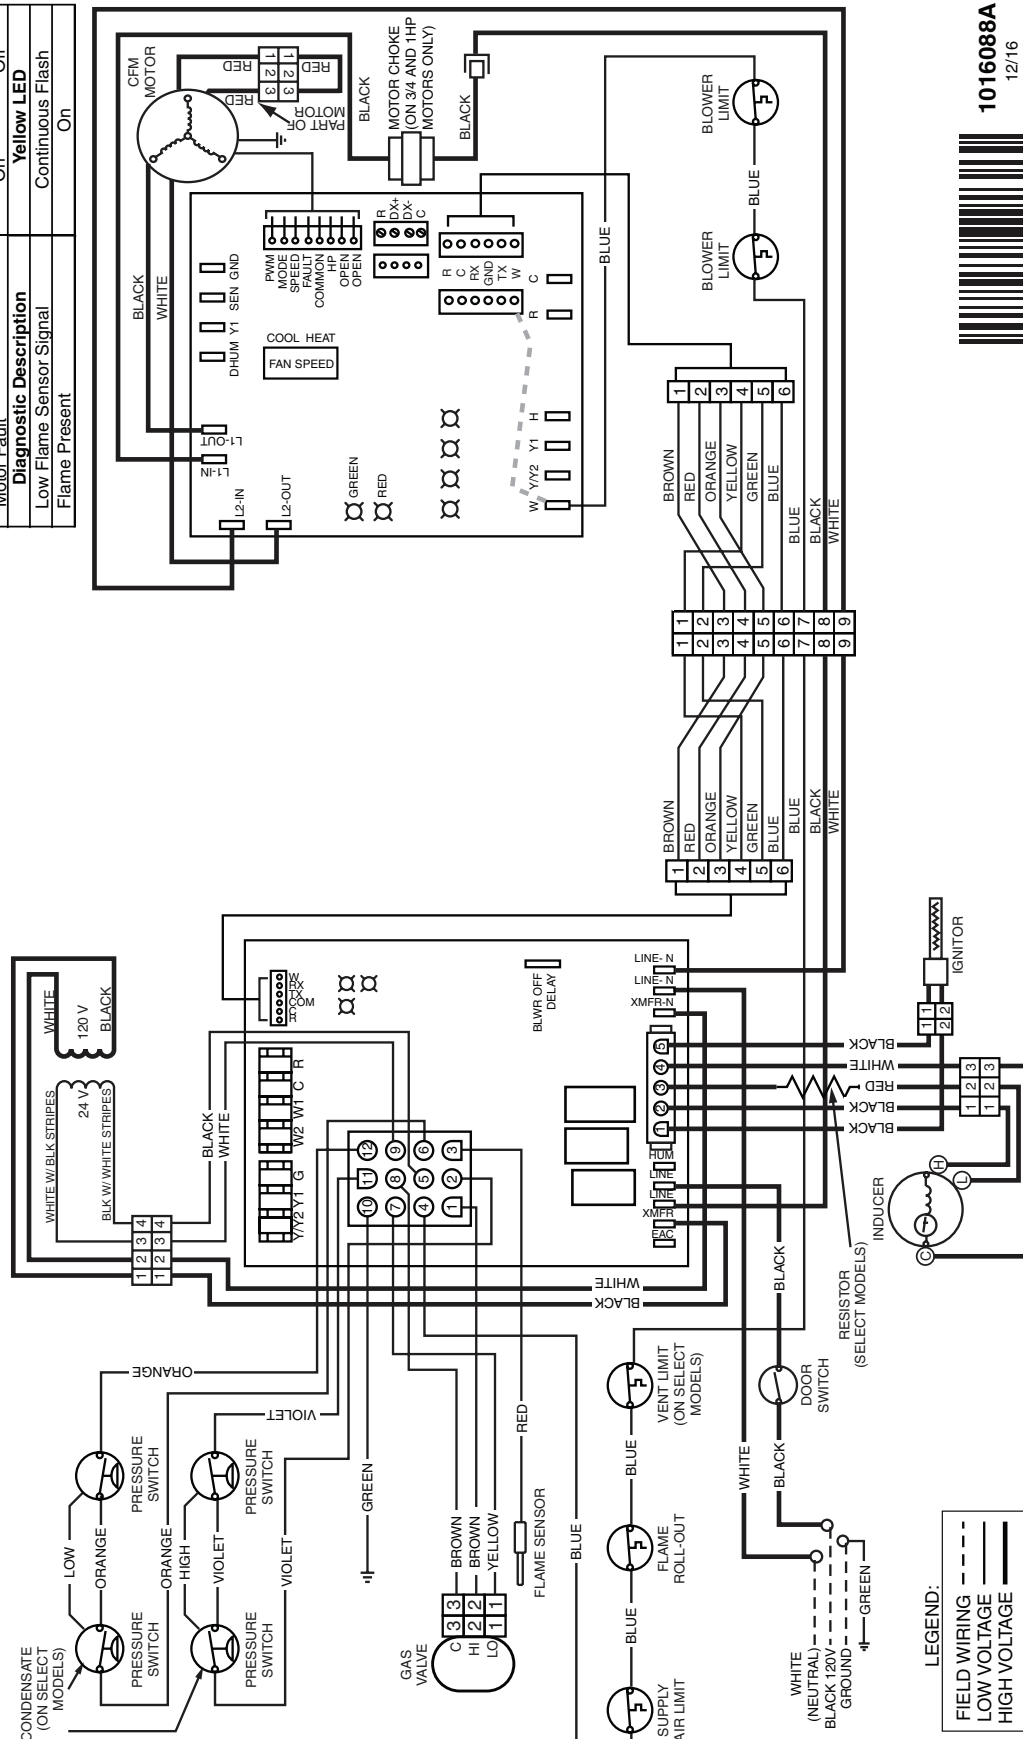

Figure 34. Wiring Diagram for Two-Stage, Variable Speed Upflow Furnaces
- Are all the LED's on the furnace and motor control boards constantly ON? If not, refer to Table 14 & Table 15 or the wiring diagrams: (Figure 32 \(page 35\), Figure 33 \(page 36\), Figure 34 \(page 37\), & Figure 35 \(page 38\)) to determine fault condition.